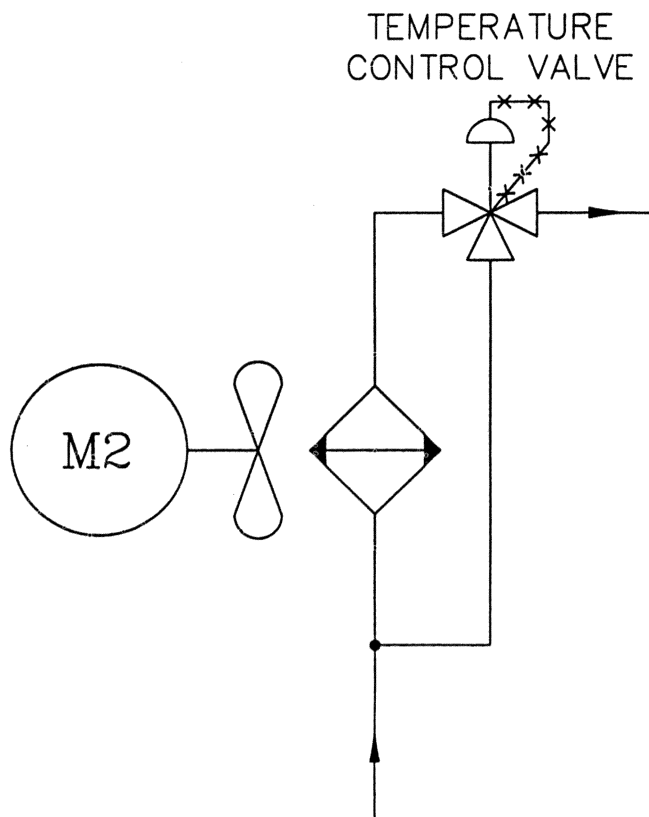

Figure 11. Air to Oil Cooler with Mixing Action Temperature Control Valve.
- Consideration should be given to an air to oil cooler with a mixing valve (Figure 11).
- ### *High Ambients above 120°F and/or Direct Sunlight (Figure 11, high ambient schematic including an air to oil cooler)*